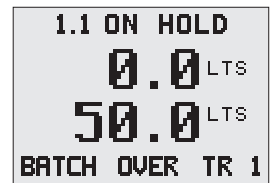

Figure 37: Example of main screen when configured as a Batch Meter
When configured as a Batch Meter, as shown in Figure 37, the Jackal uses a flow sensor and solenoid valve to accurately meter liquid volumes. The output of the Jackal (Terminal B8 and B9) is suitable for direct connection to a 12 volt solenoid valve.
1. Main screen should display as shown in Figure 37. If anything else is displayed on the main screen, use the **MENU** and **NAV** keys inactivate all inputs ('NOT USED' displayed).
5. Main screen should display as shown in Figure 37 if the batch **AMOUNT** was 50L and Jackal is in **HOLD** mode (solenoid not activated).